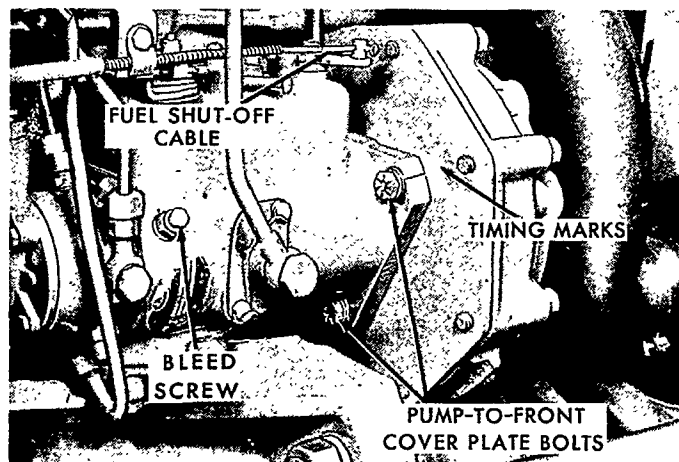

Figure 21
The distributor-type injection pump drive is doweled and bolted to the pump timing gear. When mounted on the tractor with the pump mark on the pump mounting flange lined up with the "O" mark on the engine front cover plate, the pump is in time with the engine. Additional marks are provided on the engine front cover plate if advancing or retarding of the injection pump should become necessary, Figure 21.
4. Loosen the bleed screw on the injection pump, Figure 21. Crank the engine until fuel flowing from the bleed screw is free from air bubbles. Tighten the bleed screw.